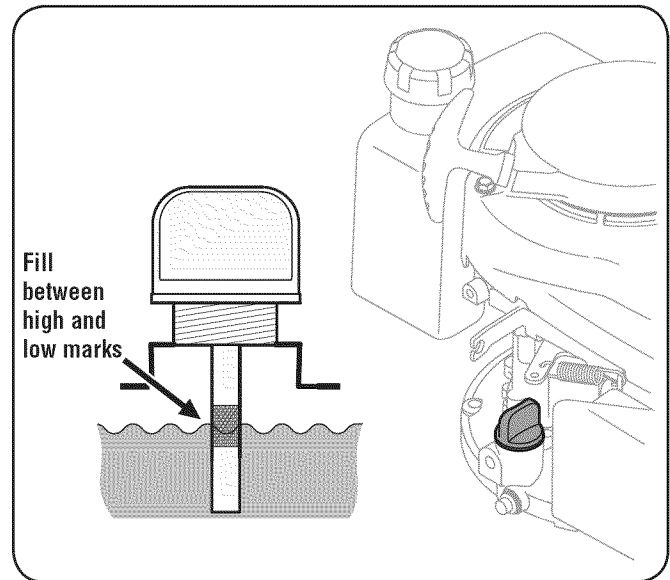

Figure 3-2
1. Remove the oil filler cap/dipstick and wipe the dipstick clean. See Fig. 3-2.
3. Remove the oil filler cap/dipstick. If the level is low, slowly add oil until oil level registers between high (H) and low (L). See Fig. 3-2.